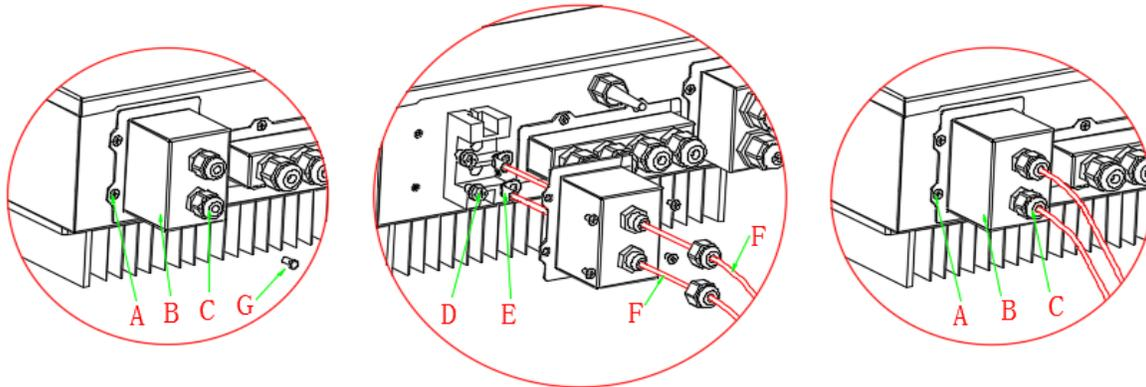

Fig. 6 Battery connection (Test battery wires polarity before connection)
Step 1: Loosen 4 screws (A) using a screwdriver (fig. 6);
Step 2: Remove the waterproof cover (B), loosen the cable gland (C), and then remove the stopper (G);
Step 3: Route the battery wires (F) through the cable gland, then connect battery wires using OT terminal (E);
Step 2: Loosen 4 screws (part A) using a screwdriver (fig. 6)